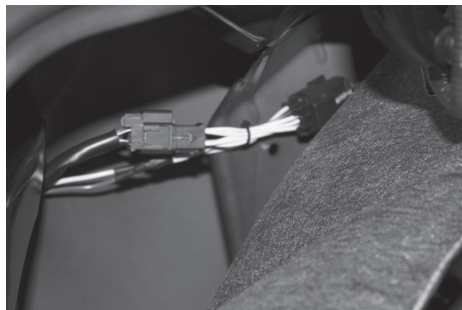

Figure 5
6. Starting on passenger side position RV harness with connectors containing Green wires between separated vehicle harness connectors. Press connectors firmly into vehicle connectors until they lock into place shown in **Figure 5**.